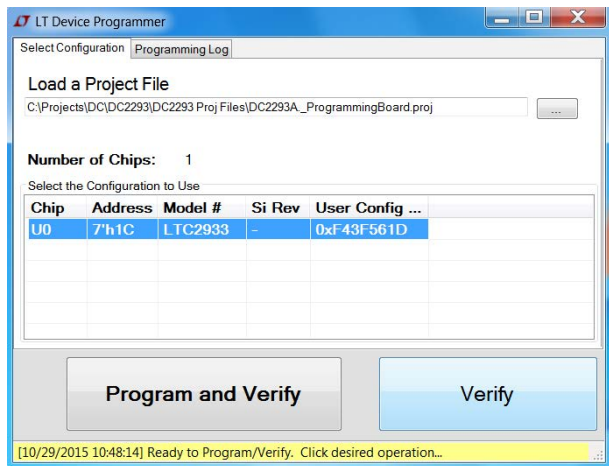
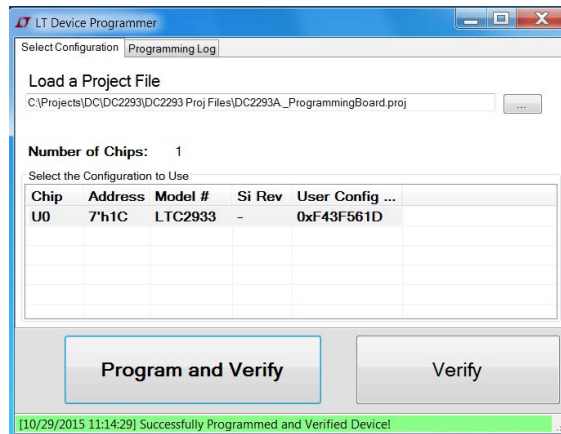

Figure 10. Device Programming Utility.
Figure 11. Programmed and Verified Device
- Click the “Program and Verify” button (See Figure 10) and wait for the process to complete. After the process is complete, you will see “Successfully Programmed and Verified Device” in the status bar at the bottom. See Figure 11.